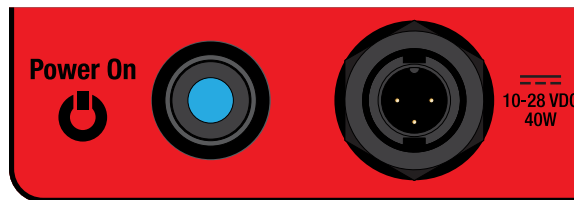

Figure 5: Power switch and charging connections
3. Power on the flow meter using the button shown in Figure 5.